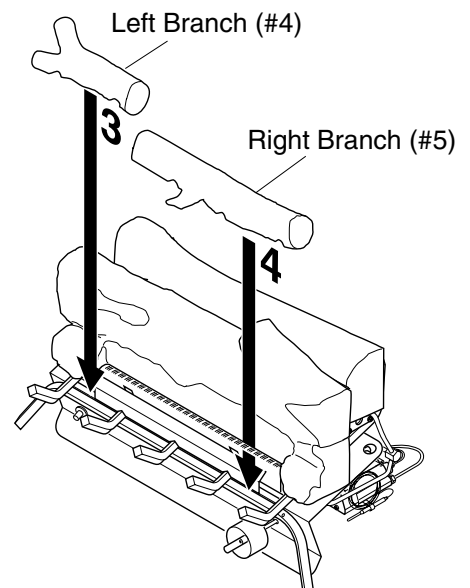

Figure 19 - Installing Front Log
3. Place left front branch (#4) and right front branch (#5) (24" and 30" models) or front branch (#4) (18" model) into place (see Figure 19). Make sure notches on bottom rest on grates.